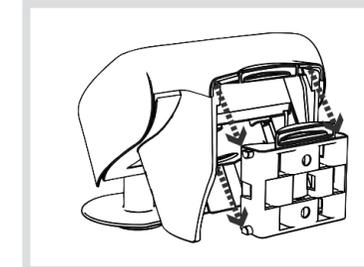

Figure 8: Installing onto the fixing
- (10) Connecting terminals for auxiliary voltage
- (11) KNX bus connection terminal
- (12) Connector for precipitation sensor in the housing cover
- (13) Programming button and programming LED
- (14) GPS antenna
- Place cover (8) onto the bottom part of the housing (3) and push carefully until it engages audibly.
- Slide the weather station into the mounted fixing from above. Ensure that the pins for the wall/mast fixing engage audibly into the guides for the bottom part of the housing (figure 8).